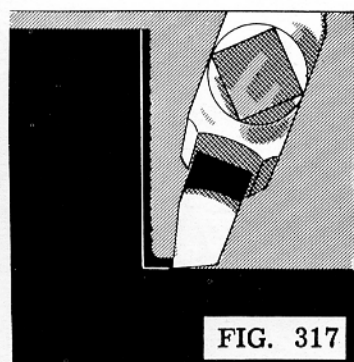
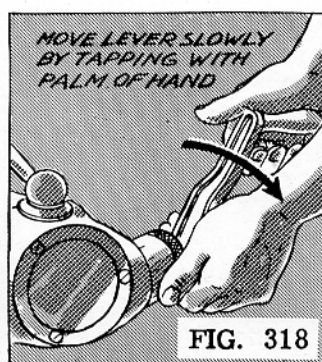

FIG. 317
FIG. 318
13. Disengage the automatic feed just before the tool reaches the corner (Fig. 317). Use the hand feed and move the work toward the tool slowly. Tap the handcrank lightly with the palm of the hand to control to best advantage the amount of feed per stroke (Fig. 318).